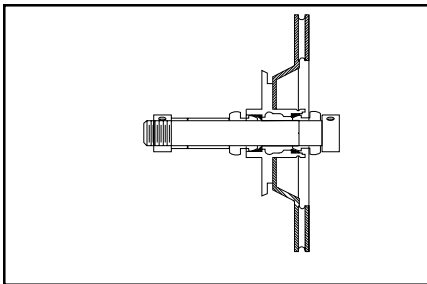

Figure 25 Use collets in bearing race as illustrated, add necessary spacers
C. Install collet for inner bearing race on arbor. **See Figure 25.** Then mount the rotor, collet for outer bearing race, and necessary spacers to fill arbor past mounting surface. Install arbor nut and tighten by hand. This will center the rotor on the collets. Using 91286 Spanner Wrench, tighten arbor nut snugly. If rotor touches housing, place a spacer on arbor between inner collet and arbor shoulder.